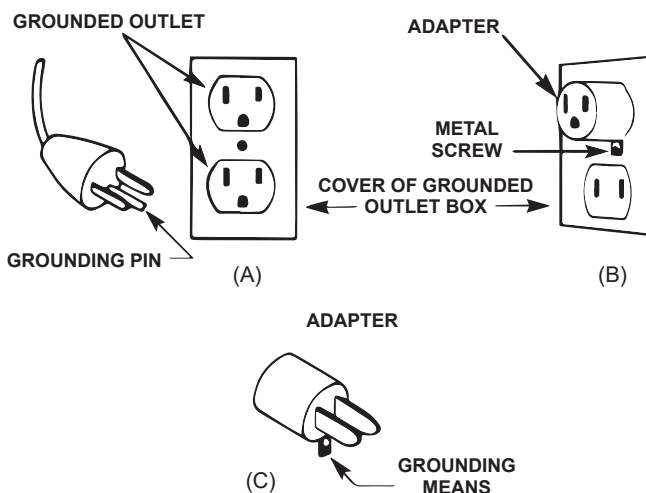

Figure 2
This product is for use on a nominal 120 volt circuit and has a grounding plug that looks like the plug illustrated in Figure 2(A). A temporary adapter, which looks like the adapter illustrated in Figure 2(B) and (C) may be used to connect this plug to a 2-pole receptacle if a properly grounded outlet is not available. The temporary adapter should only be used until a properly grounded outlet can be installed by a qualified electrician. The green colored rigid ear or lug extending from the adapter must be connected to a permanent ground such as a properly grounded outlet box cover. Whenever the adapter is used, it must be held in place by a metal screw.